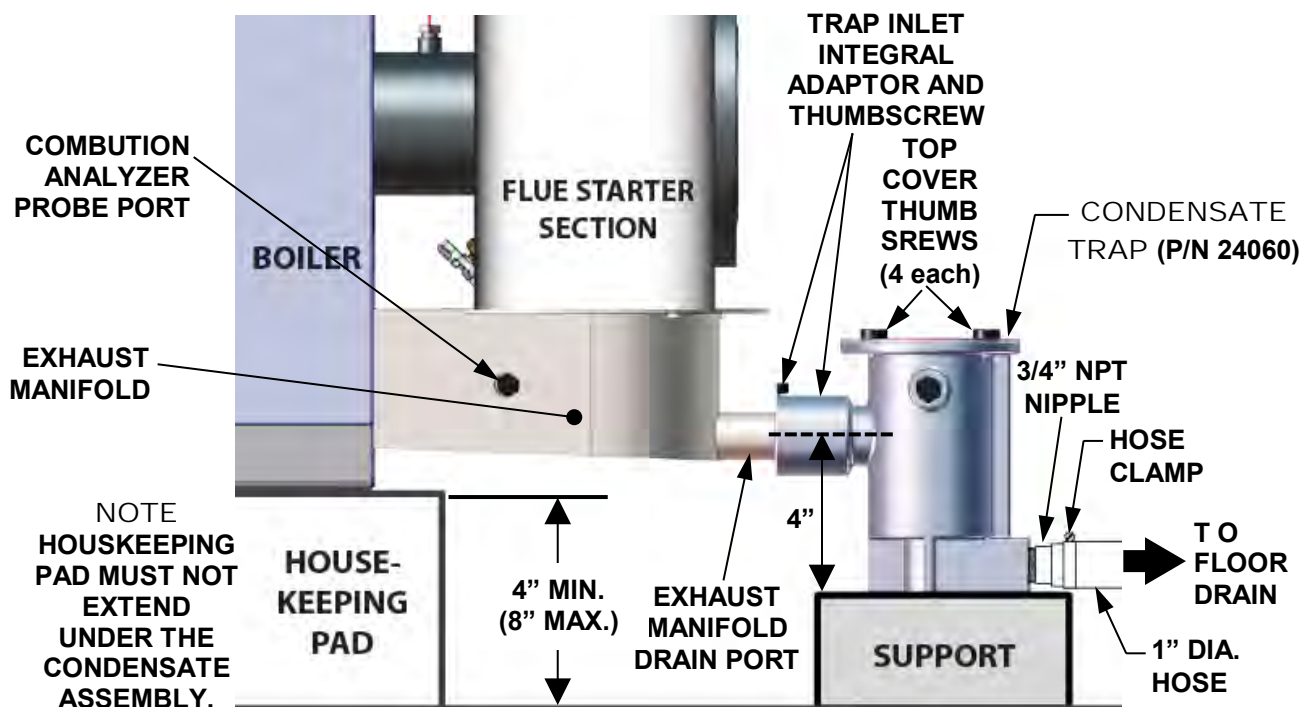

Figure 2-6: Sample Condensate Trap Installation (Right Side View)
A sample condensate trap installation is shown in Figure 2-6. The following general guidelines must be observed to ensure proper condensate drainage:
1. The condensate trap inlet (Figure 2-6) must be level the exhaust manifold drain port.
1. Connect the condensate trap inlet to the exhaust manifold drain connection by inserting the drain port directly into the trap adaptor inlet, and then tightening the inlet thumbscrew, as shown in Figure 2-6. The inlet features two integral O-rings to prevent leakage.
Use PVC, stainless steel, aluminum or polypropylene for condensate drain piping (Figure 2-6). **DO NOT** use carbon or copper components.